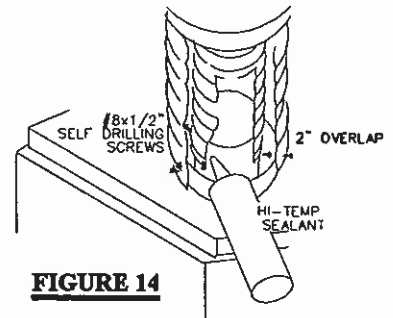

FIGURE 14
1. Install the 4 inch diameter aluminum flexible liner to the fireplace. Secure with 3 screws and flat washers. Seal the joint and screw holes using the high temperature sealant provided. **FIGURE 14.**